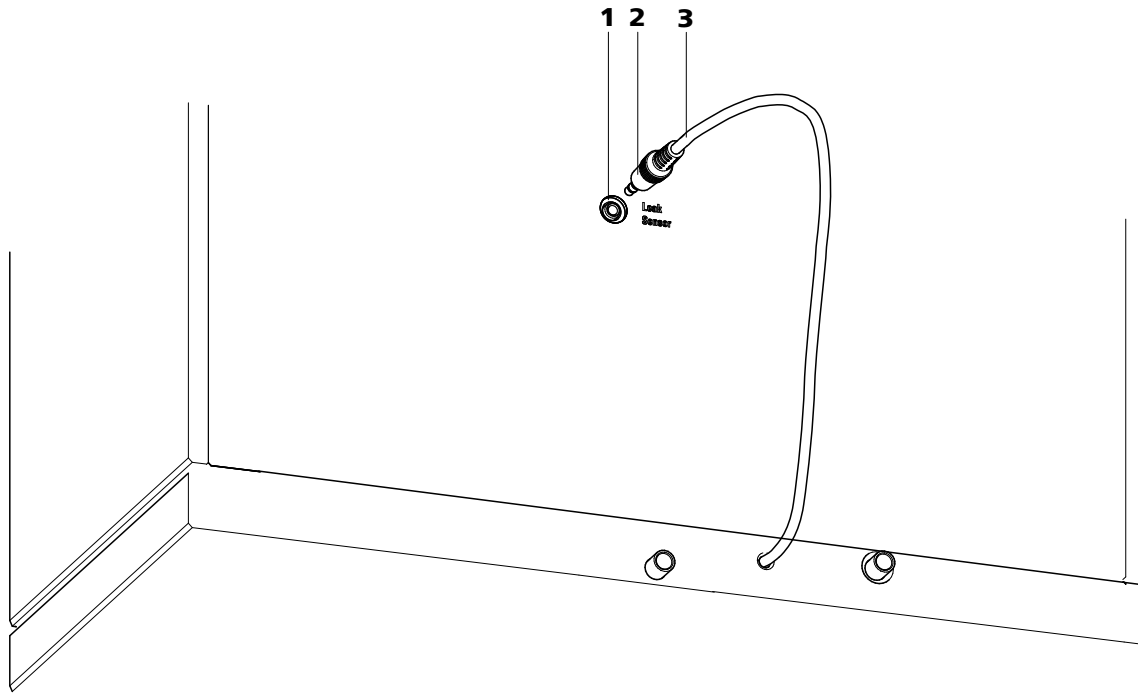

Figure 10 Connection for the leak sensor on the rear of the instrument
- 1 Plug the leak sensor connector plug (10-2) into the leak sensor connector socket (10-1) on the rear of the instrument (see *Figure 10*, page 32).